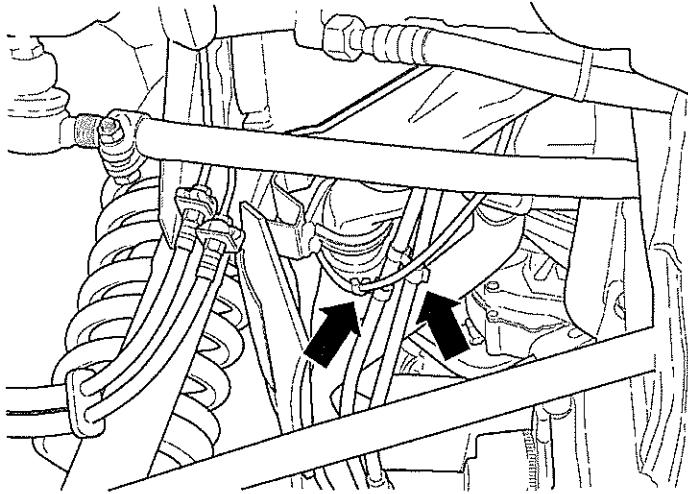

Fig 8 Position of cable clips
14.10 Remove cable clips holding handbrake cable and throttle cable to remote gear cable (see Fig 8).